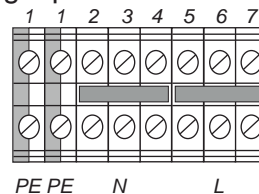

Figure 4-4 AC Input Terminal Block (1-phase)
- 1-phase 110VAC or 230VAC (Figure 4-4)